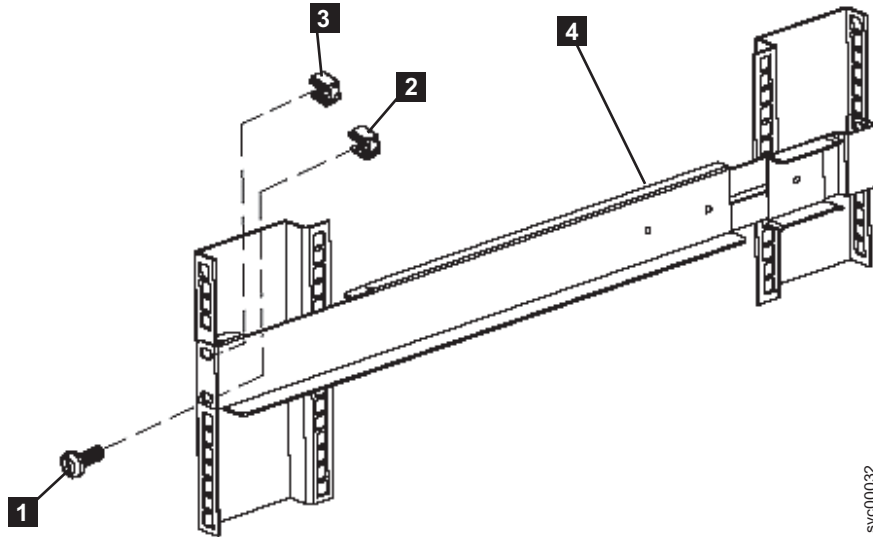

Figure 52. Securing the front rail on the 2145 UPS-1U
8. Attach only the bottom hole of the rail to the front of the rack with one M6 × 10 screw and one clip nut (**1** in Figure 52 on page 82).